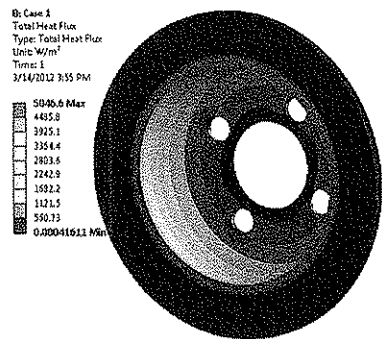

Figure 11-21 Total Heat Flux for the whole body
20. Select **Total Heat Flux** from the **Solution** node in the Tree Outline; the corresponding contours displaying the distribution of heat flux are displayed in the Graphics screen, as shown in Figure 11-21.